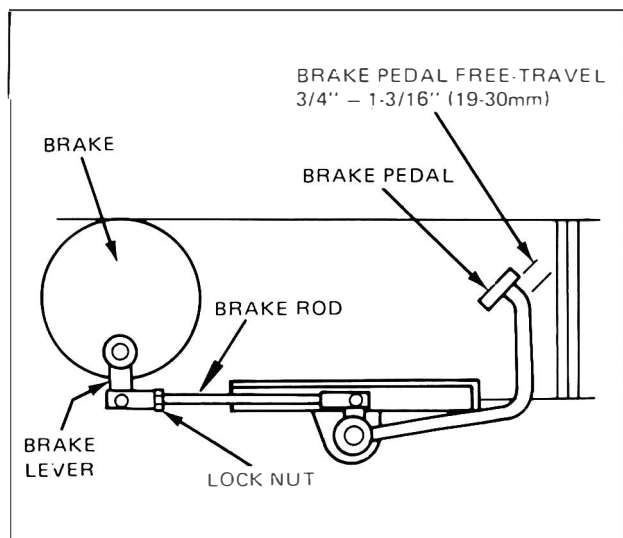

Figure 64 – Brake Pedal Adjustment
2. Loosen the lock-nut, Figure 64, and rotate the brake rod as necessary until there is 3/4-1-3/16 inch (19-30 mm) of pedal free play. Lengthening the rod increases free play while shortening the rod decreases free play.